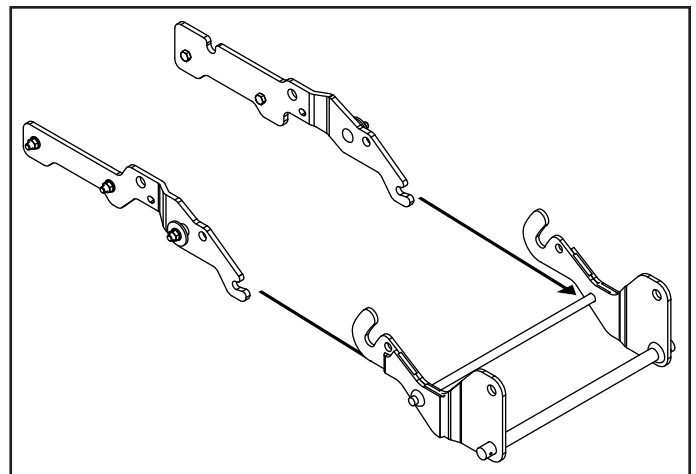

Figure 13.
4. See figure 13. Slide the cross bar of the adapter assembly in to the slots on the side plates.